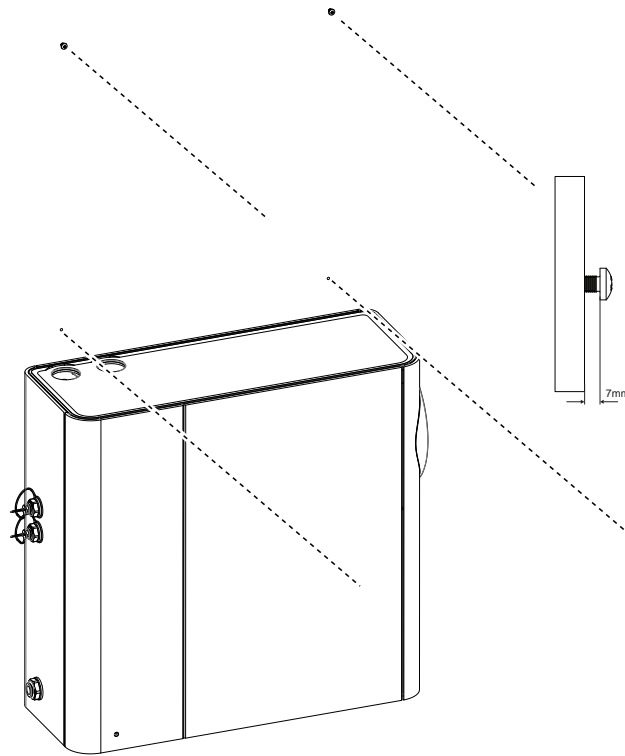

Figure A-12: Insert mounting screws
4. Remove the Local Relay StaX and mounting bracket spacer from above the detector. Insert two M4 button head screws in the upper two pilot holes and tighten until the screw head is protruding 7 mm from the wall (Figure A-12).